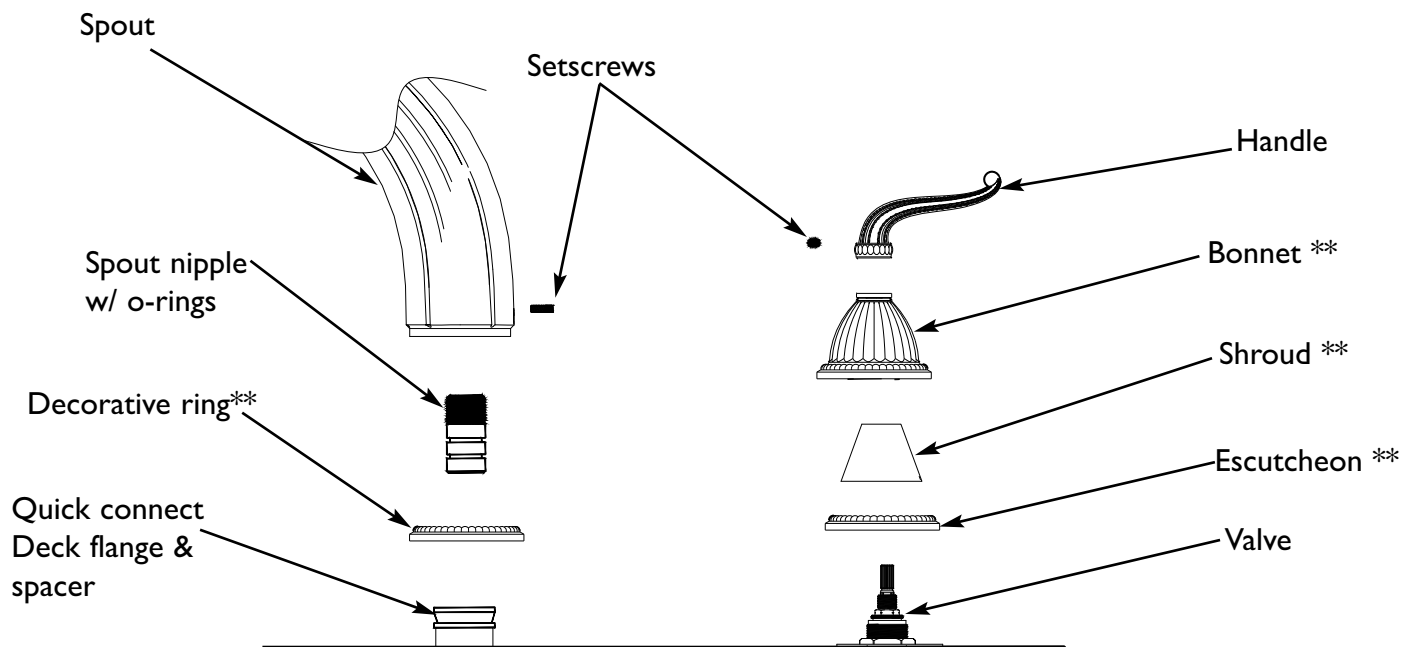

Fig. 3
- Attach handle trim to valve. When possible, any adjustments for rotational alignment should be made to the valve body - not to the cartridge. (Note: Allow minimum spacing between handles and escutcheon/bonnet to prevent damage to the surface finish.) Secure handles into place with setscrew. See Figure 3.
- Apply plumbers tape to spout nipple and install into base of spout. Slide spout nipple into quick connect deck flange (re-grease if necessary). Make sure spout is flush with deck and secure into place with setscrew. See Figure 3.